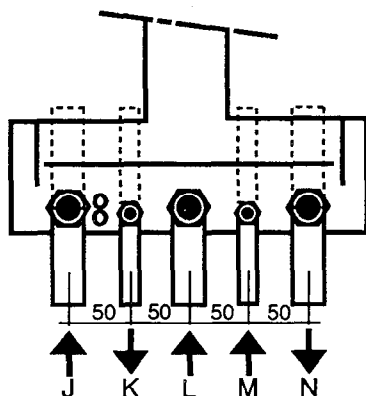

Fig. 22
The safety valve is mounted below the heating return (J) (fig. 22) isolating valve.
- Fit support bracket (A).